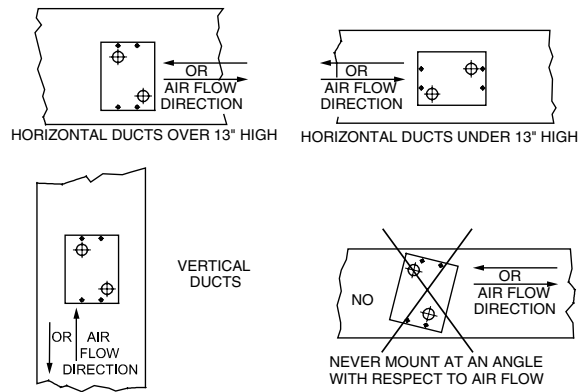

Figure 12. Template Positioning
1. Tape the template (Figure 18) on the duct surface as shown in Figure 12.
Note: Do not position the Template with edges angled with respect to air flow direction (Figure 12).